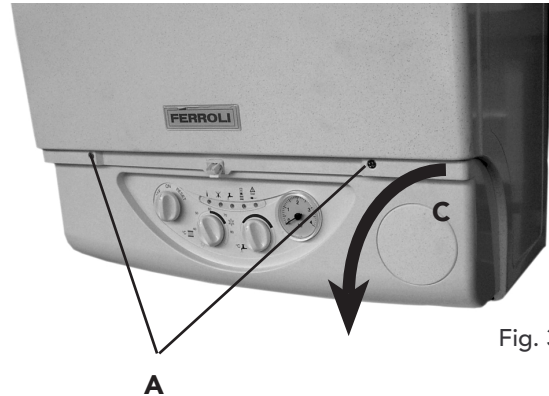

Fig. 30
7.03 To lower the control panel (fig. 30)